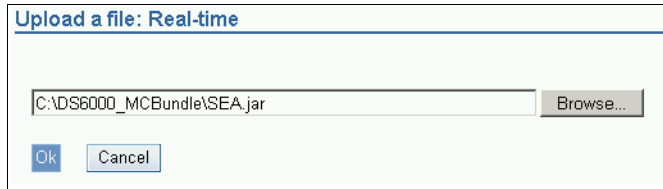

Figure 20-8 Selecting the microcode file to be applied to the DS6800 Storage Unit
2. The second step is to specify the new microcode file named SEA.jar, which is applied to the DS6800 Storage Unit by choosing **Select a file**. This file needs to be accessible locally on the management console. A file dialogue is opened that lets you browse for the location of the microcode file, as shown in Figure 20-8.
2. The remaining steps are the same as described in the concurrent procedure, starting from above Figure 20-8 on page 406 by choosing **Select a file**. The only differences with the **non-concurrent** method is that an additional warning message (Figure 20-14) appears after the successful file transfer to both DS6800 controllers and you are required to click **Proceed** before both DS6800 controllers will finally reboot and activate the new microcode.